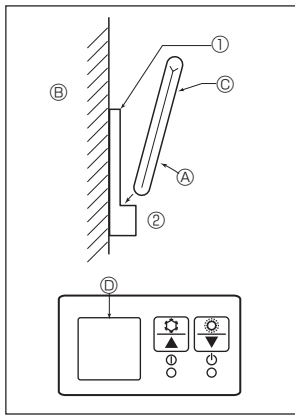

Fig. 6-4
2) Installation method (Fig. 6-4)
① Attach the remote controller holder to the desired location using 2 tapping screws.
② Place the lower end of the controller into the holder.